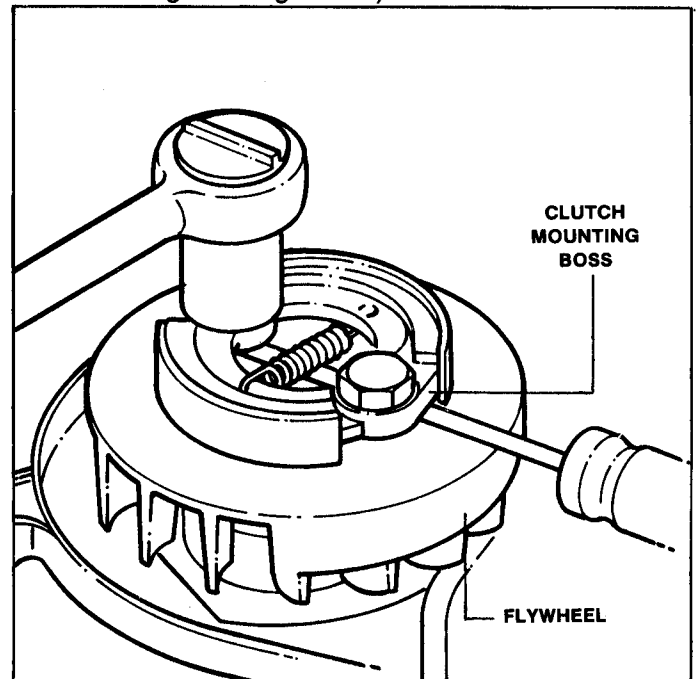

FIGURE 4.1
- A. Remove centrifugal clutch from flywheel. (Fit screwdriver between clutch mounting boss and flywheel protrusion to prevent flywheel from turning. See Figure 4.1)